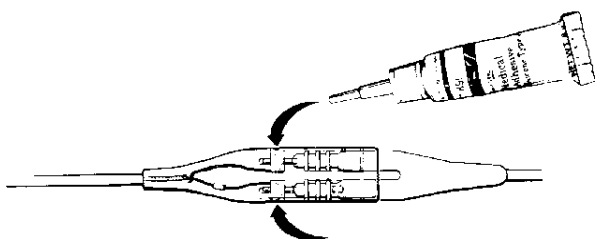

Figure 3. *Apply medical adhesive in the two setscrew holes*
7. Attach the applicator tip to the medical adhesive tube. Fill and cover the two setscrew hole openings with medical adhesive (see Figure 3).